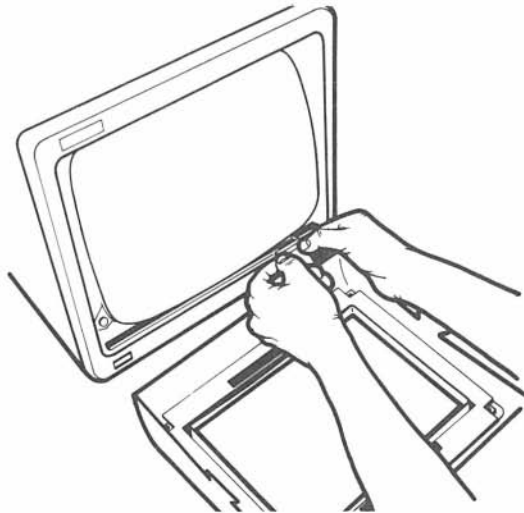

Figure 10-4. Connecting plug to socket.
5. Connect the HP Touch cable plug to the socket on the monitor. Make sure the cable is not twisted. The plug clicks into the socket when the connection is properly made (Figure 10-4).